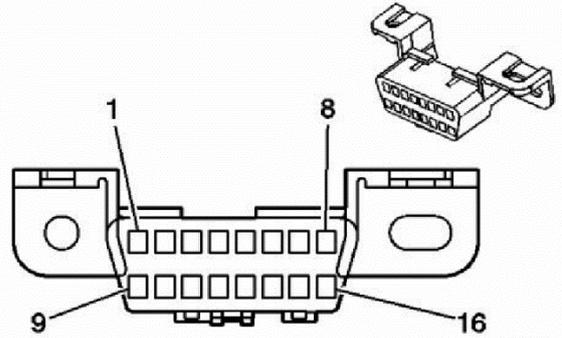

Figure 8 - X84 Diagnostic Connector
3. Connect the three short cables (6,7 and 8) on the corresponding cables at the diagnostic connector, see Figure 8 and Figure 15.